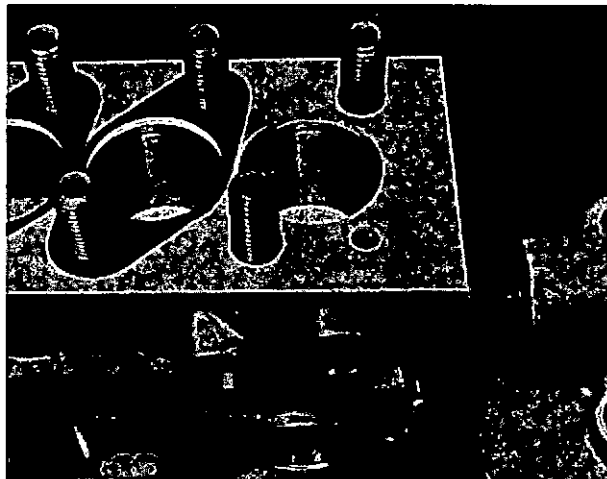

Fig. 30 Fitting 'O' rings, nylon rings and phasing shims
4. Fit a greased 'O' ring, nylon ring and shim (fig. 27, Items 5, 6, and 7) to each port (fig. 30). NOTE: On pumps with numbers prefixed '626' and later the nylon ring is superseded by a steel ring permanently pressed on the flange bushing (fig. 25, Item 1), the port recesses are deeper, and protruding two-piece shims are used.